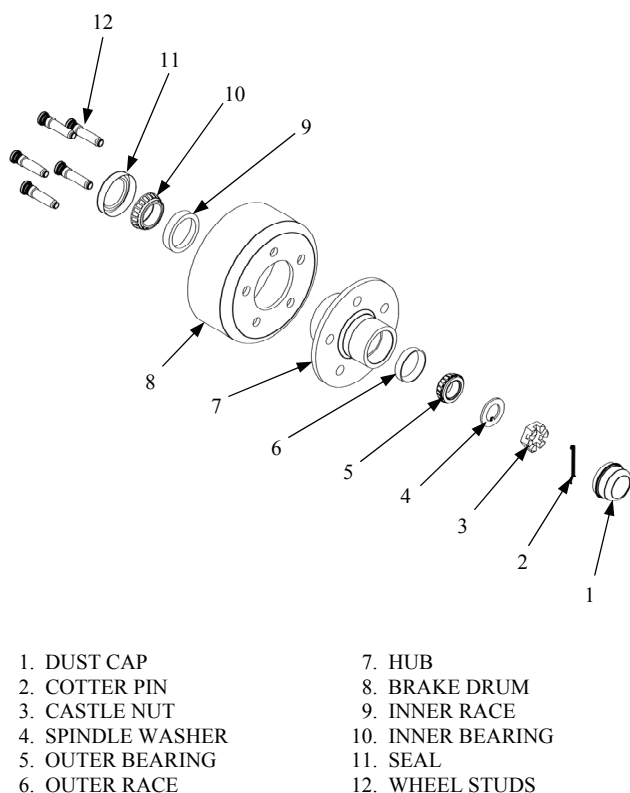

Figure 5-8. Rear Hub and Brake Drum
5.3.4.2 **Rear Hub/Brake Drum Assembly.** To remove the rear hub and brake drum assembly, follow the maintenance steps in Paragraph 5.3.4.1 before beginning the next steps. (See Figure 5-8).
- Remove dust cap (1) by lightly tapping with a rubber hammer.
- Remove cotter pin (2), castle nut (3), and washer (4).
- Grasp front hub (7) and drum (8). Pull outward firmly. Ensure that bearing (5) doesn't fall from hub and strike the ground.
- Remove bearing (5), seal (11), and bearing (10) from the rear hub (7).
- Using a suitable H-frame press, remove bearing races (6) and (9).
- Remove drum (8) by pressing out wheel studs (12) in suitable H-frame press.
- Reassemble in reverse order. Castle nut (3) should be tightened until the hub assembly rotates barely past free.